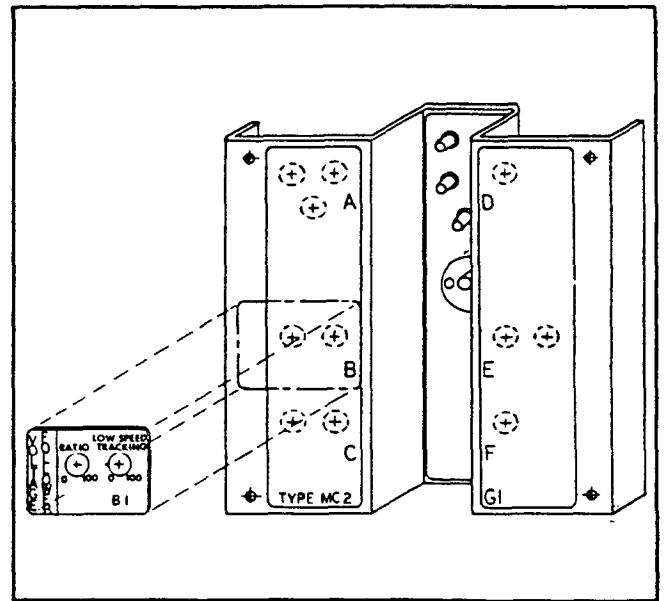

Figure 7. Identification Plate Application
3. Align the holes in the identification plate with the holes in the Regulator cover and press the identification plate into position. See Figure 7.